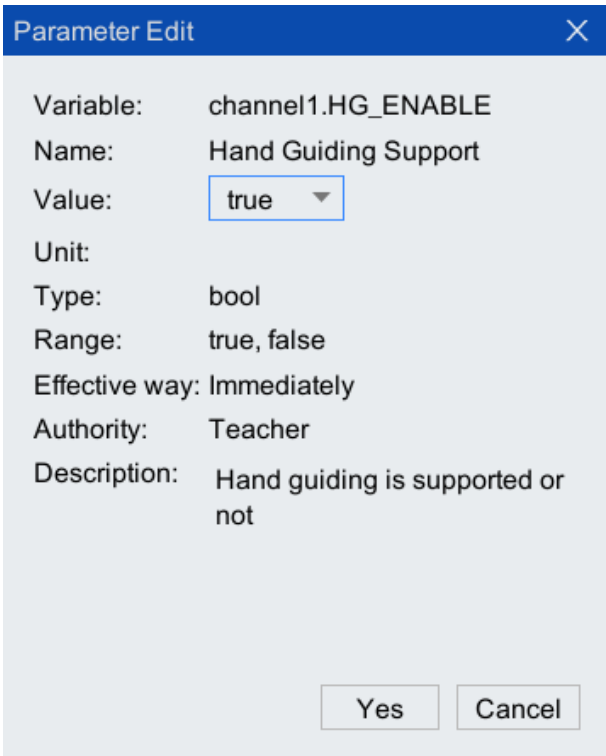

Figure 4-4 Drag the teaching display configuration page
Step4. In the pop-up [Parameter Editing] configuration interface (as shown in Figure 4-4), if the [Value] is "true", mode switching can continue; If the value is "false", please contact after-sales service. Parameter description can be found in Table 4-1.